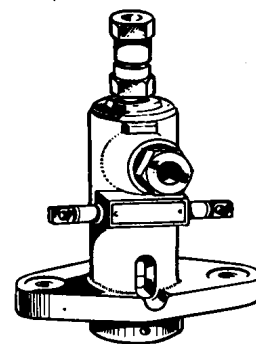

Fig. 6. Type BPF1A../00
1. BPF1A../00. Horizontal flange with its long axis parallel to control rod—fig. 6.
1. BPF1B../00. Arranged as for BPF1A../00—fig. 6.